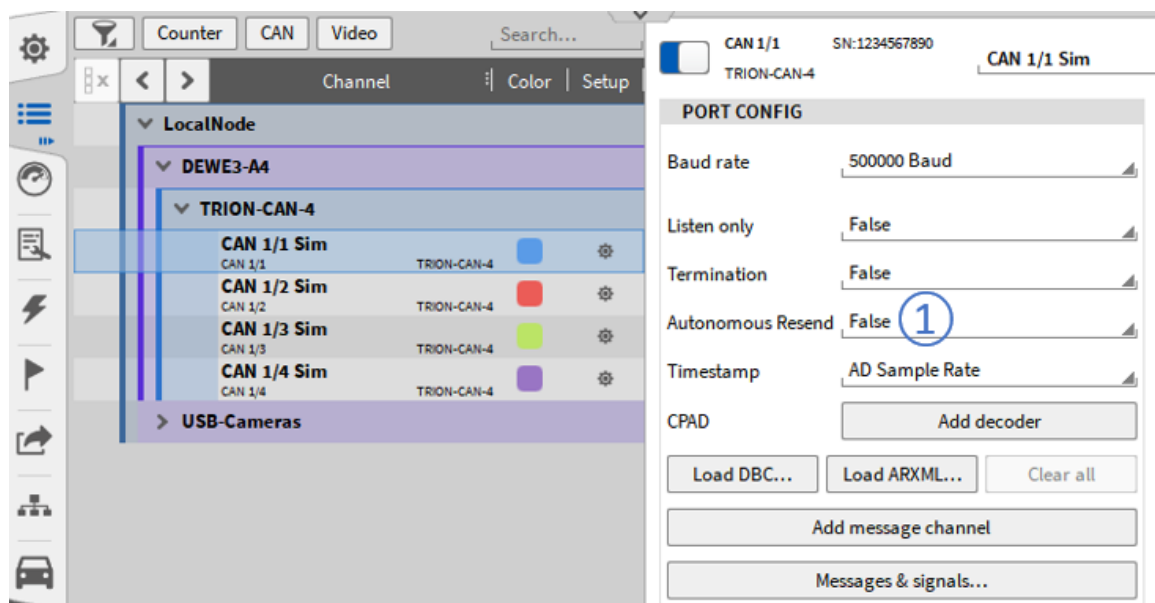

Fig. 7.215: Autonomous resend option
The Autonomous Resend option (see ① in Fig. 7.215) provides the following functionality for CAN buses which transmit data: